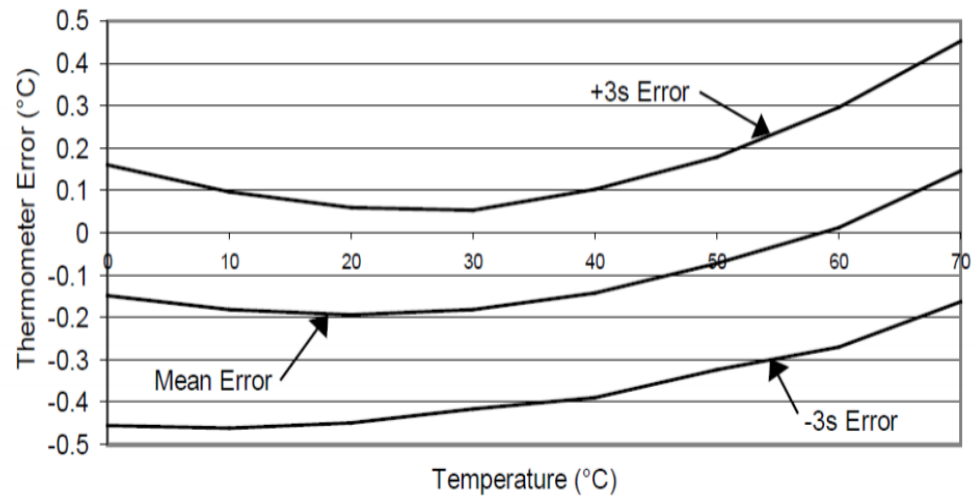

Figure 17. Typical Performance Curve
3) See typical performance curve in Figure 17 .